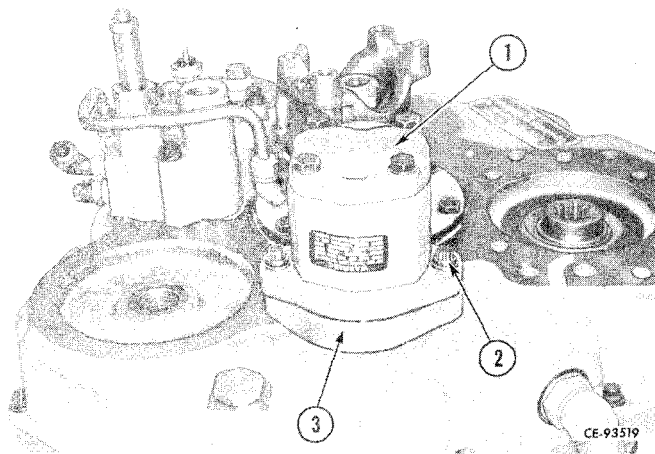

Figure 3-6
Remove the cap screws (2, Fig. 3-6) that retain the converter charging pump (1) and remove the pump. The pump adapter plate (3) need not be removed unless it is damaged or its gasket is leaking.